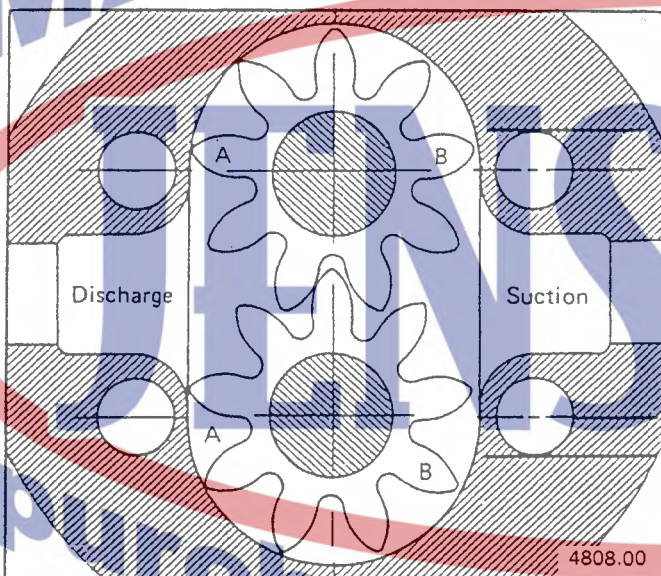

Figure 26 - Checking Body to Gear Clearance
3. Check the clearance between the body and gear teeth. To measure this clearance, place a 0.127 mm (0.005 in.) thick shim at point "A", measure clearance at point "B" while holding the gear against the shim at point "A". The body and/or gears should be replaced if the clearance exceeds 0.254 mm (0.010 in.) at point "B". See Figure 26.